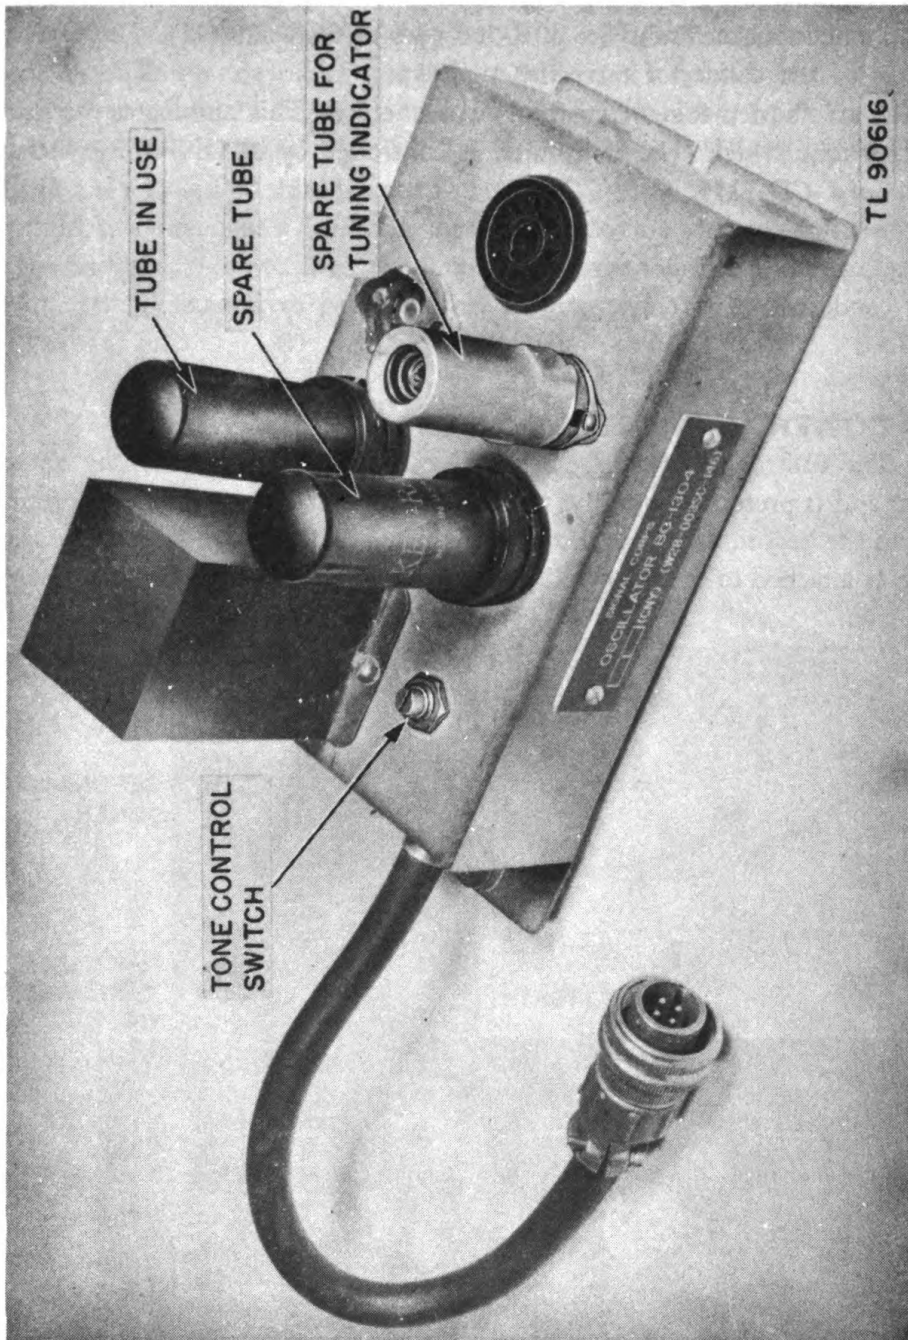

Figure 13. Oscillator BC-1304.
**13. OSCILLATOR BC-1304.** The audio oscillator (fig. 13), consists of a  $\frac{1}{16}$ -gauge metal chassis  $3\frac{3}{4}$  inches by  $6\frac{1}{2}$  inches by  $1\frac{3}{16}$  inches, upon which is mounted an audio transformer, 2 small octal sockets, 3 large octal sockets, a 5-point switch, and a 12-inch 4-wire cable with an amphenol connector. The audio oscillator uses a pentode 12A6 tube, one to be used and one to be carried on the chassis as a spare. A spare 1S4 tube for the tuning indicator is also carried on the chassis. The entire oscillator assembly is mounted within the antenna mount on a shock-proof plate. A Dzus fastener facilitates installation or removal of the oscillator and eliminates the need of tools.